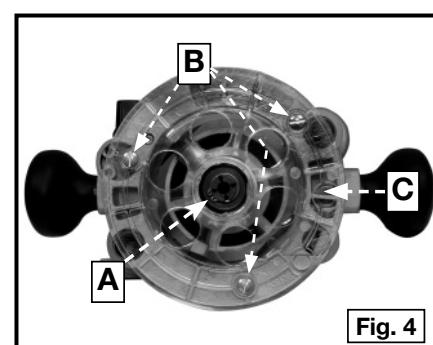

Fig. 4
1. Loosen the sub-base mounting screws (B) Fig. 4 just enough to allow the sub-base (C) to move.
2. Open the clamp and adjust the power unit so that the collet nut (A) engages the center hole in the sub-base (C). Allow the sub-base to center itself on the collet nut. Close the clamp.
3. Tighten the sub-base mounting screws (B) Fig. 4 securely.